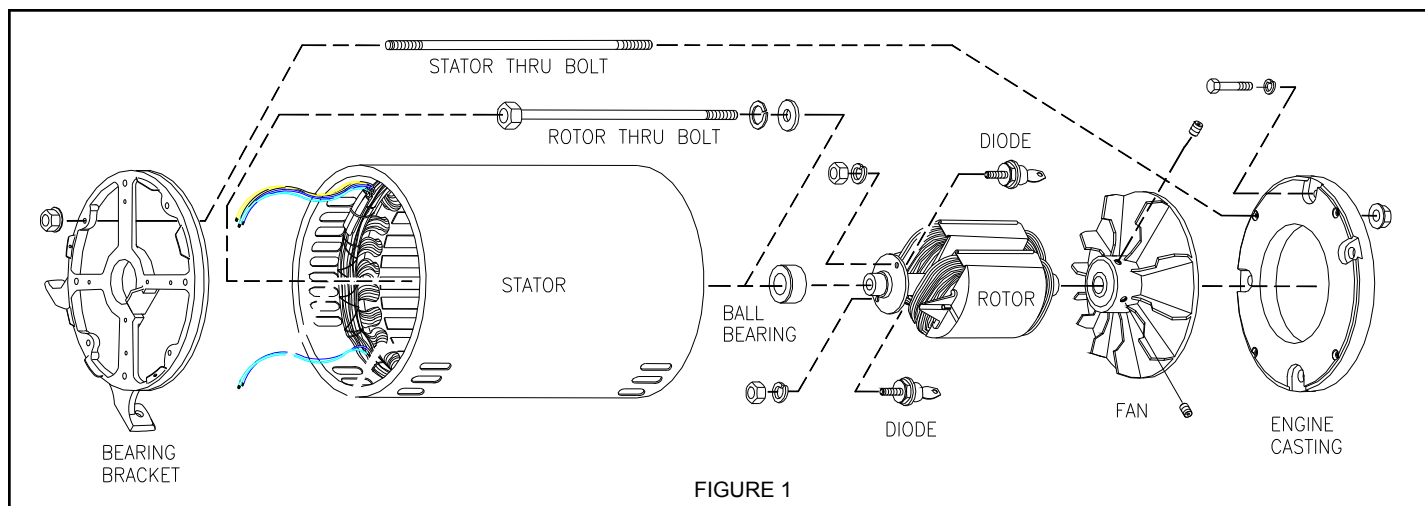

FIGURE 1
Each generator component is described in detail. (See Figure 1)
**STEP 6. Open, Shorted, or Grounded Stator Main Windings:** The stator is the outside stationary winding as shown in Figure 1. It consists of copper wire laid in a steel laminated frame. To remove stator assembly, follow disassembly instructions, part #1 through #5, on page 10.